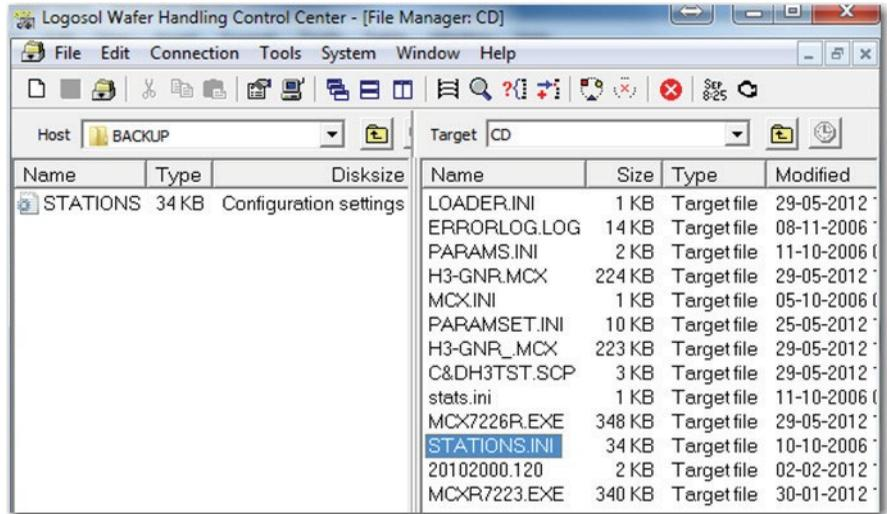

FIGURE 6-6: Restoring Robot configuration
1. From the File Manager window, drag and drop the STATION . INI file from the BACKUP directory to the Target directory, as shown in Figure 6-6.